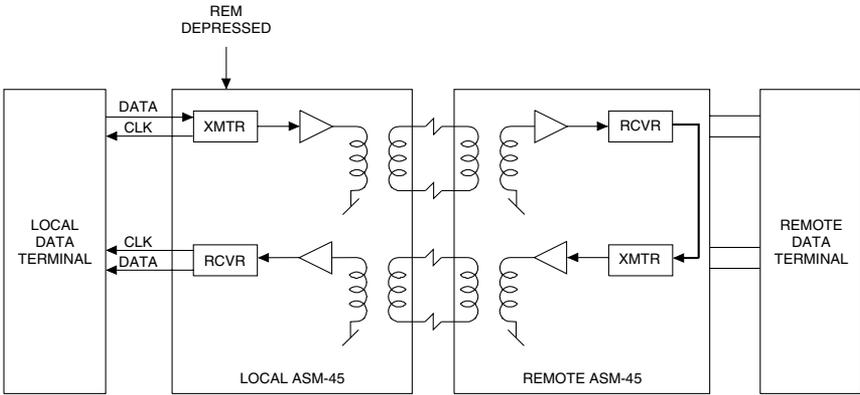

Figure 5-4. Remote SHM-768K in Digital Loopback.
- Step A: Press the REM (Remote Loopback) button, providing a loopback at the remote SHM-768K (Figure 5-4). (This test can also be activated via the pin on the DTE interface.) The TEST LED should light at both the local and remote units.